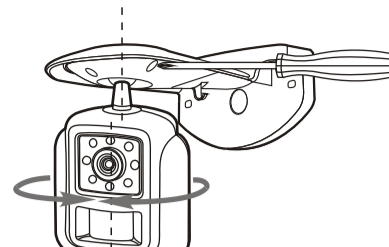

Fig. 8
1. Adjust the camera's viewing angle according to the illustrations of Fig. 8.